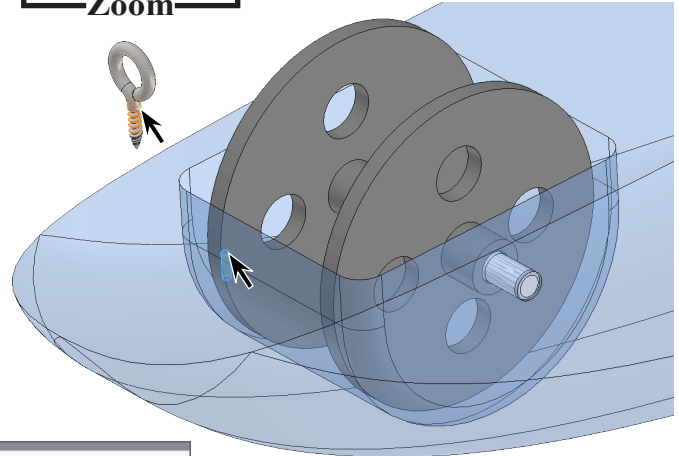

Fig. 26
Step 3. Click **cylindrical inside face of the hole in Body** and **cylindrical face of Eye Screw**, Fig. 26.